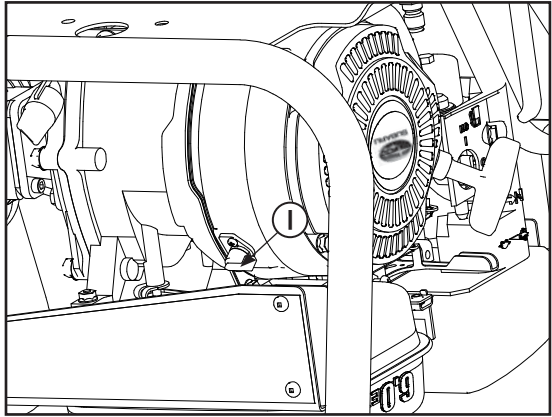

Figure 5
4. Turn the engine switch (I on figure 5) to ON position.